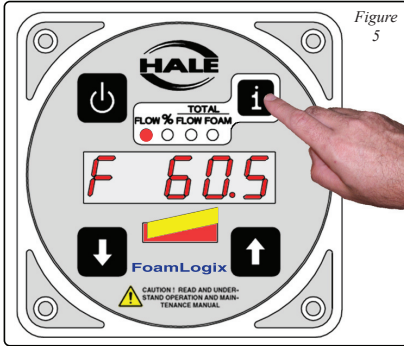

Figure 5
6. Press the DISPLAY (i) button to view the water flow calibration factor. (See Figure 5.) Write this number down for future reference.